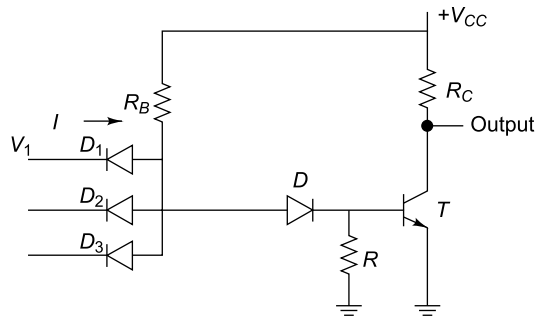

Fig. 6.50 Circuit of Ex. 6.31
- 6.31** Determine the current through diode D_1 as shown in Fig. 6.50.